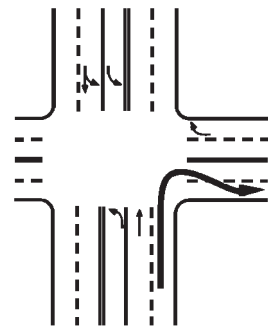

Figure 2-8
- If you are driving a truck or bus that cannot make a right turn without swinging into another lane, turn wide as you *complete* the turn as shown in Figure 2-8.